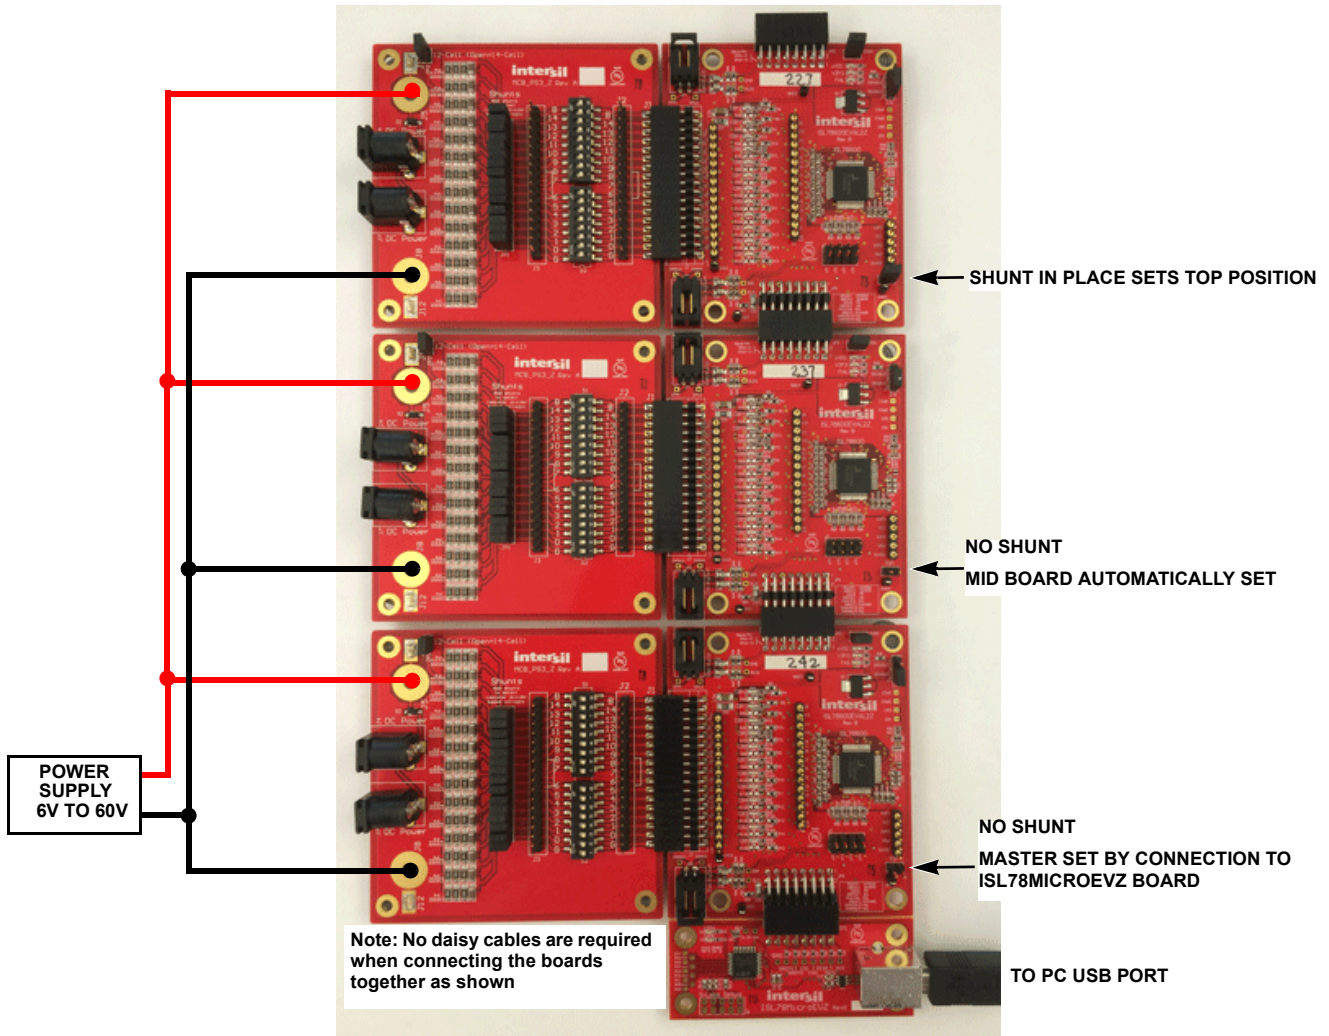

FIGURE 3. ISL78600EVKIT1Z REVB IN 36-CELL DIRECT CONNECT DAISY CHAIN CONFIGURATION
5. Connect the daisy chain. The daisy chain can be connected together directly or with cables, as shown in Figures 3 and 4 on page 6, or using a combination of direct and cable connections. When using twisted pair cables, connect the wires as shown in Table 1. (Note: the boards are configured to prevent both direct connection and twisted pair cable connection.)